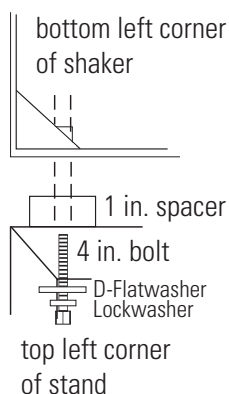

Figure 1-13. Shaker To Stand
5. Carefully lift and position the unit over the spacers on the stand. Align the (4) connection point holes in the bottom of the unit with the (4) spacers and holes in the stand. (Helpful hint: Use masking tape around outside edge of spacers to hold in place during installation. Remove tape after installation).
6. Assemble the lockwashers, then the D-shaped flatwashers onto the ½"-13 x 4" bolts. Then thread the bolts through the underside of the stand top rails, through the spacers and into the holes in the bottom of the unit. Tighten these bolts to secure the shaker to the stand. Refer to Figure 1-13 and 1-14.